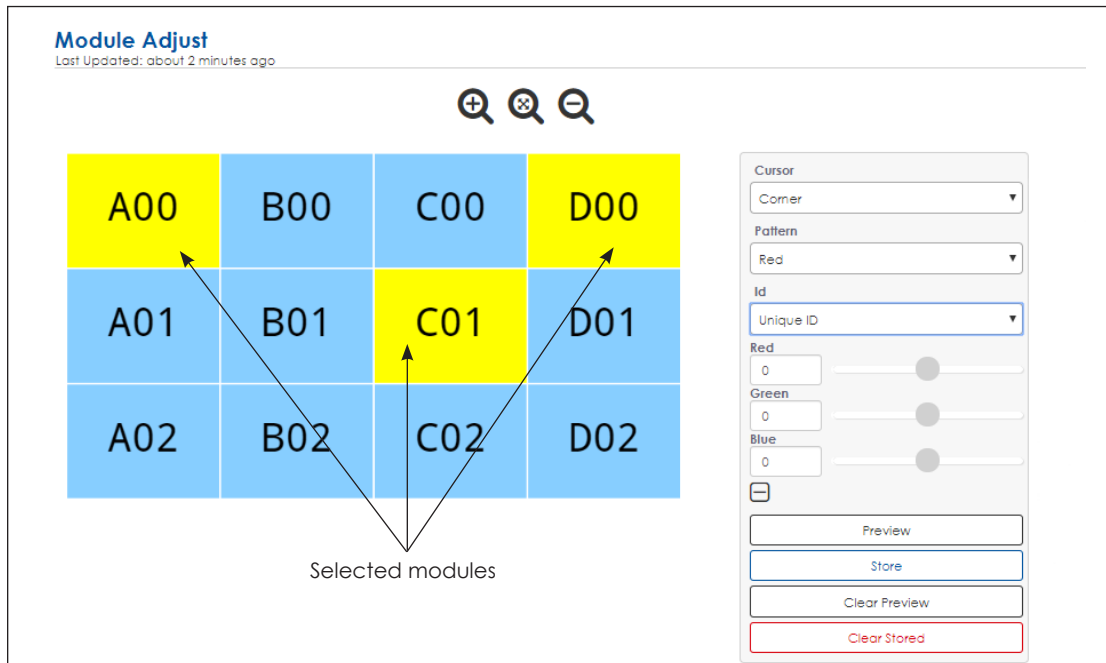

Figure 55: Module Adjustment
- Click **Start** to open the **Module Adjust** tool. A graphic representation of the display modules (or tiles for NPP displays) opens with adjustment tools along the right side. Refer to **Figure 55**.